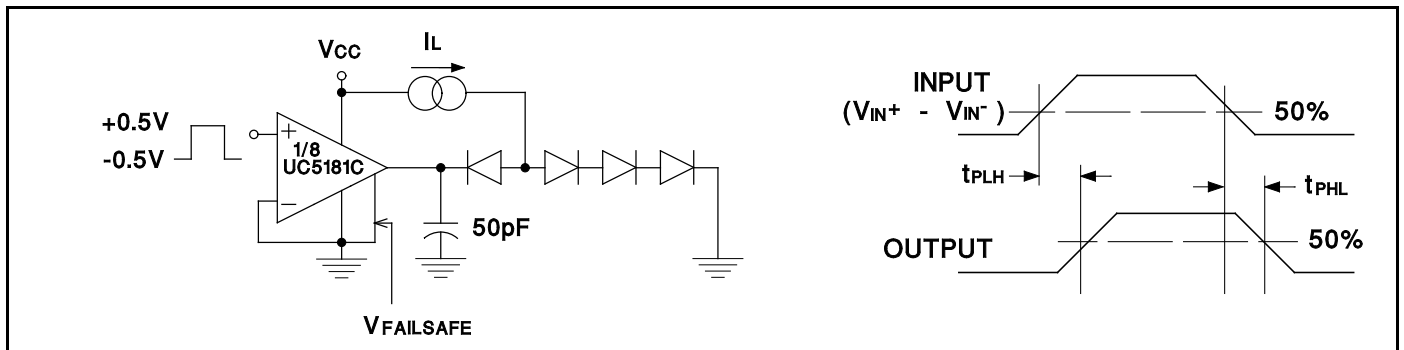

Figure 2. AC Test Circuit
**AC ELECTRICAL CHARACTERISTICS:**  $V_{CC} = 5\text{V} \pm 5\%$ .  $T_A = 0^\circ\text{C}$  to  $+70^\circ\text{C}$ , Figure 2  $T_A = T_J$ .